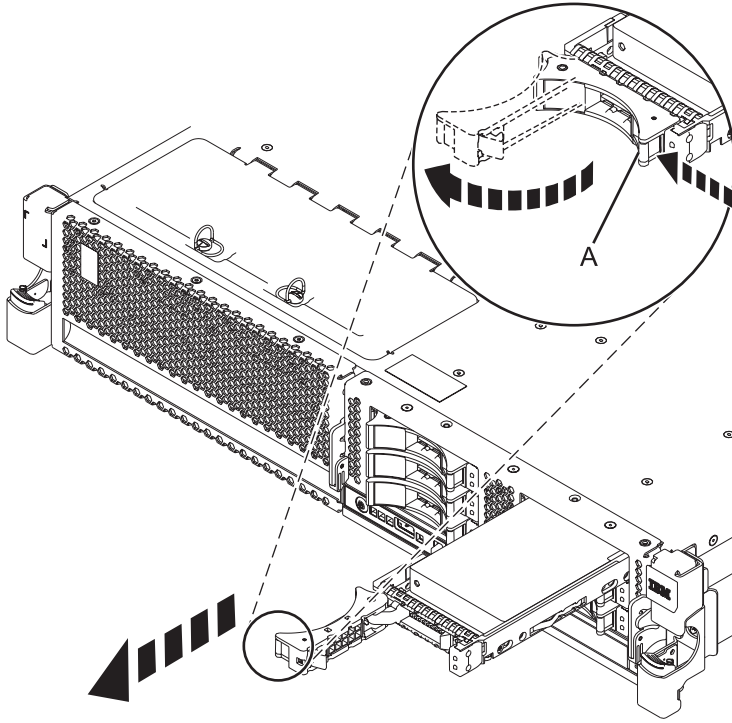

Figure 27. Removing the disk drive from the backplane
- 1) Unlock the disk drive handle (A) and pull it toward you to unseat the disk drive.
- 2) Place one hand under the disk drive and carefully pull the drive out of the system as shown in Figure 27 on page 41.